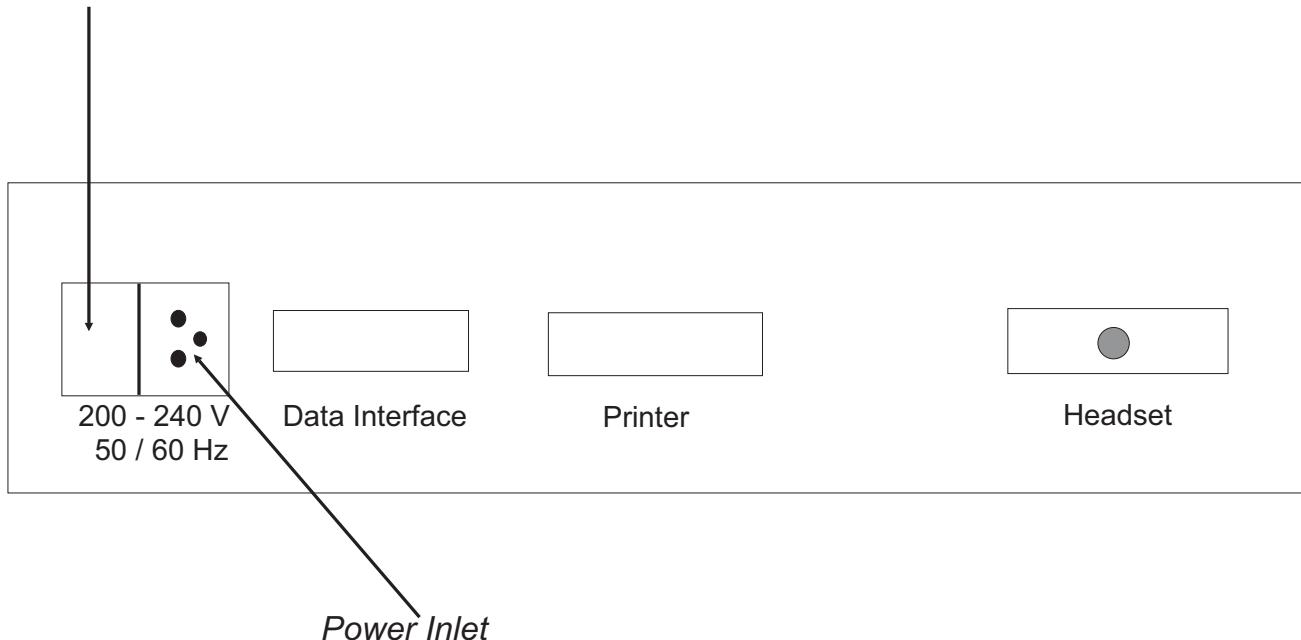

Fig.2.1
Connect the headset, and, if required, the optional external printer and/or a personal computer (PC) to their respective connectors in the Connection Panel located on the rear of the instrument (see Figs. 2.1 and 2.2).